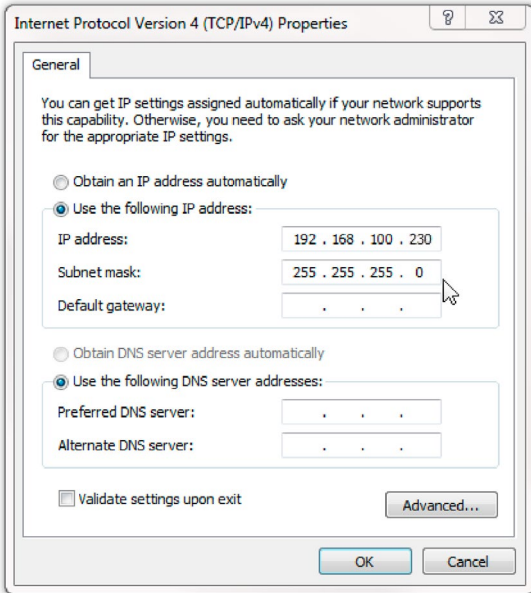

Fig. 50: Static IP address
- Click the radio button “Use the following IP address” and set an own static IP address (Fig. 50).
Example (Fig. 50):